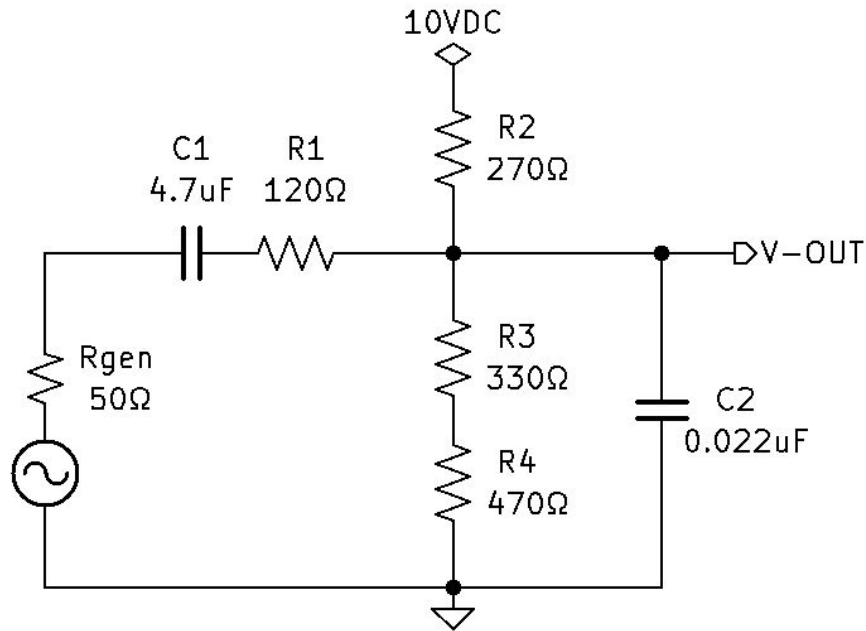

Figure 2.1: RC Circuit 1 (from First Semester)
1. See Figure 2.1 *RC Circuit 1 (from First Semester)*. Refer to your first-semester lab book.
- (a) Draw or attach the schematic *RC Circuit 1 (from First Semester)* Figure 2.1
- Change the function generator from a sine-wave to a square-wave at 3vpp for Figure 2.1 *RC Circuit 1 (from First Semester)*.
- Assemble circuit Figure 2.1 *RC Circuit 1 (from First Semester)* and set the function generator to 3vpp square-wave.